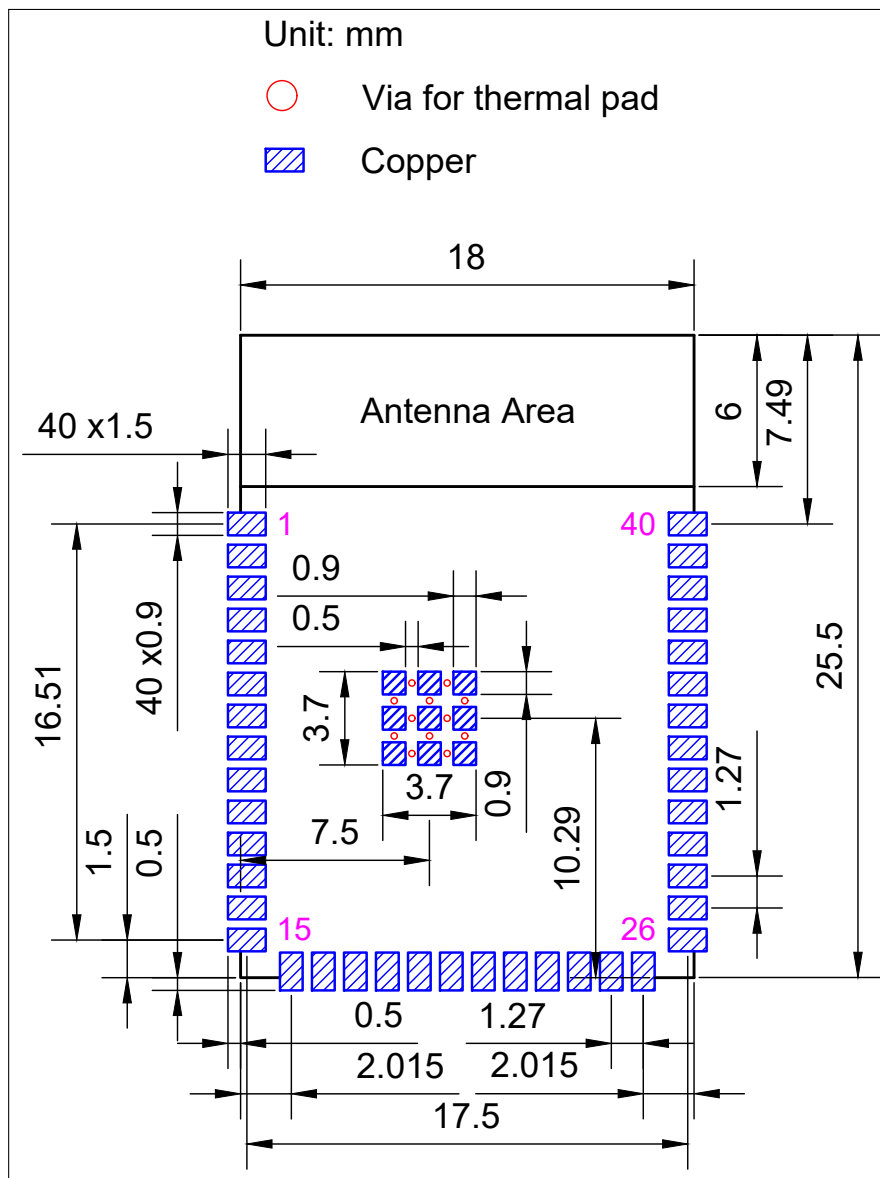
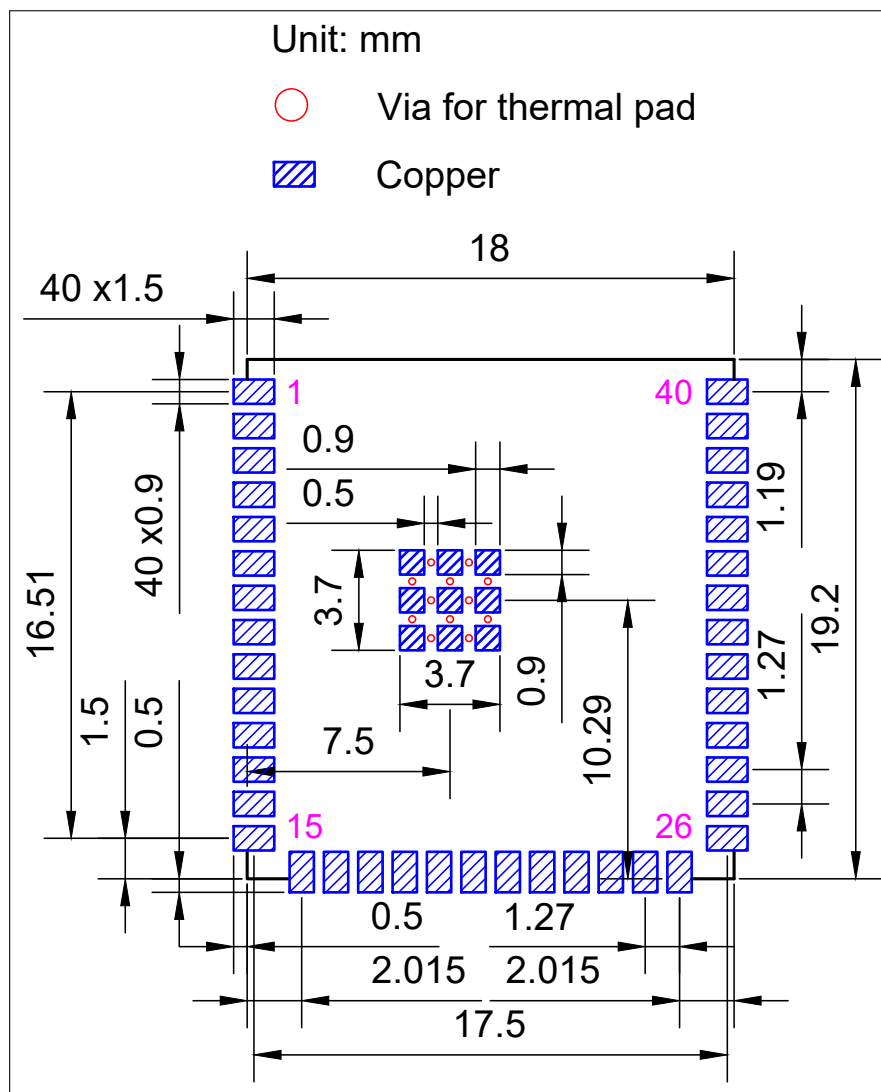

Figure 11-1. ESP32-S3-WROOM-1 Recommended PCB Land Pattern
Figure 11-2. ESP32-S3-WROOM-1U Recommended PCB Land Pattern
- Figures for recommended PCB land patterns with all the dimensions needed for PCB design. See Figure 11-1 *ESP32-S3-WROOM-1 Recommended PCB Land Pattern* and Figure 11-2 *ESP32-S3-WROOM-1U Recommended PCB Land Pattern*.
- Source files of recommended PCB land patterns to measure dimensions not covered in Figure 11-1 and Figure 11-2. You can view the source files for ESP32-S3-WROOM-1 and ESP32-S3-WROOM-1U with Autodesk Viewer.